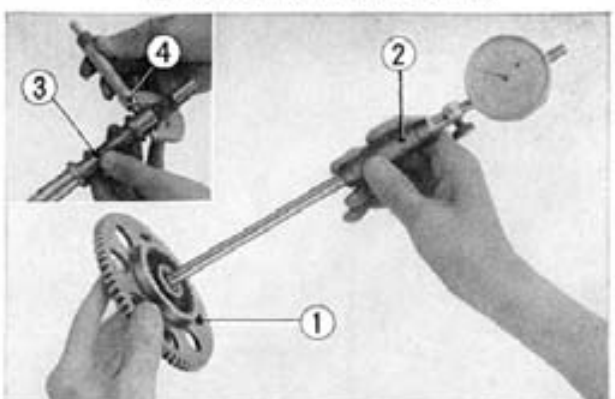

Fig. 3-94 ① Kick gear ③ Kick starter shaft
2. Check the bore of the kick gear with an inside dial gauge and the starter shaft with a micrometer and if the dimension is beyond the serviceable limit shown in the table below, the parts should be replaced. (Fig. 3-94)